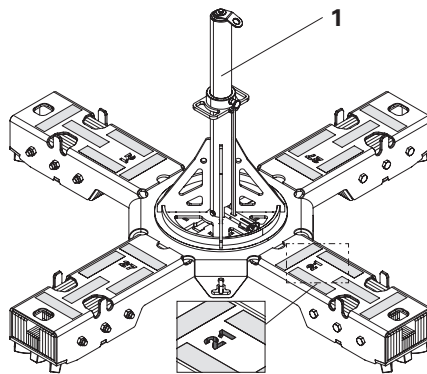

Fig. B3.01
- For SKY-Anchor 21 mm (1), use the SKY-Anchor 21 mm support. (Fig. B3.01)